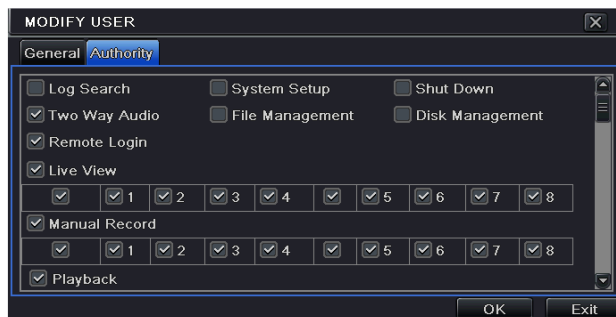

Fig 4.34 Add User - Authority
- ② **Authority:**
Step 1: Enter into add user → authority referring to Fig 4.34.